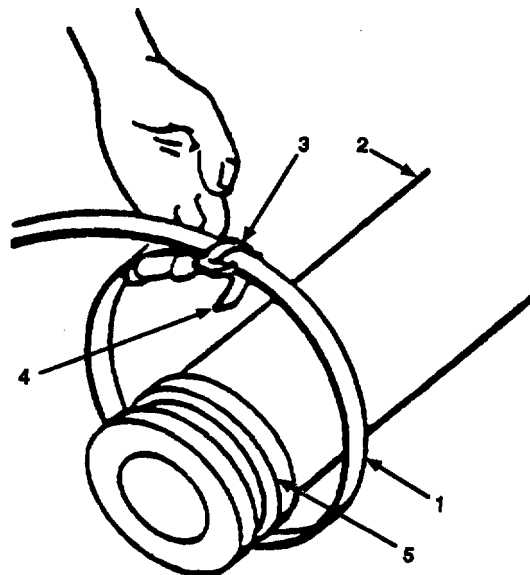

Figure 3-4. Strapping Preparation.
- m. Continue long end of strapping (Figure 3-4, 1) around hose (2) and through buckle (3) once more, forming a double band.
- n. Position buckle (3) so that it is on top of hose (2).